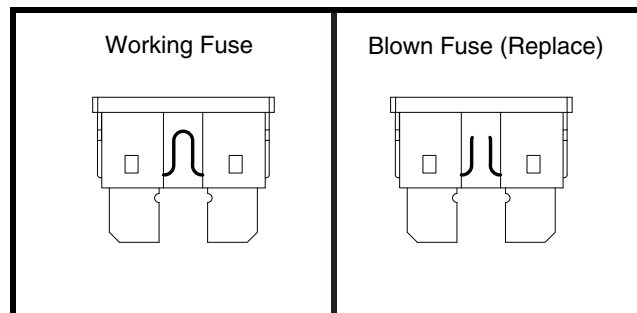

Figure 17. Fuse Replacement
2. Examine the fuse to be sure it is blown. See **figure 17**.